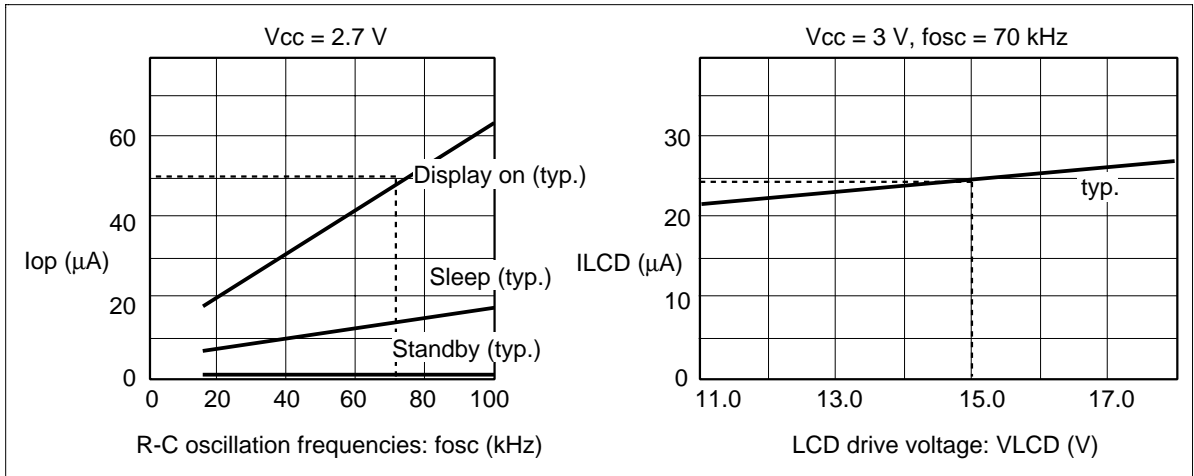

Figure 60 Relationship between the Operation Frequency and Current Consumption
7. The following shows the relationship between the operation frequency (f_{osc}) and current consumption (I_{cc}) (figure 60).